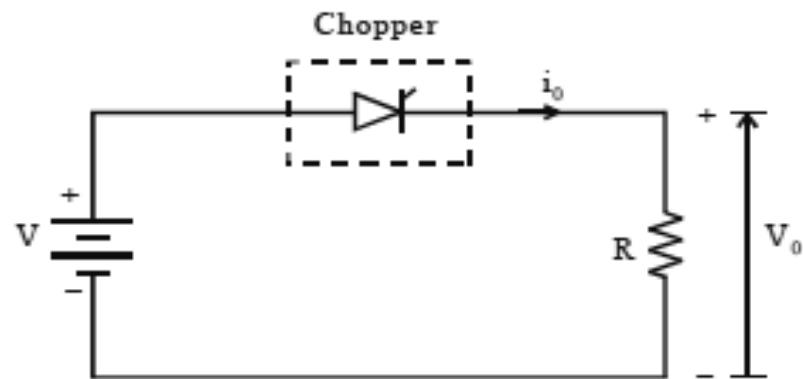

Fig. 13.1 Step down chopper with R load
1. Make the circuit connection as per the circuit diagram shown in Fig. 13.1.